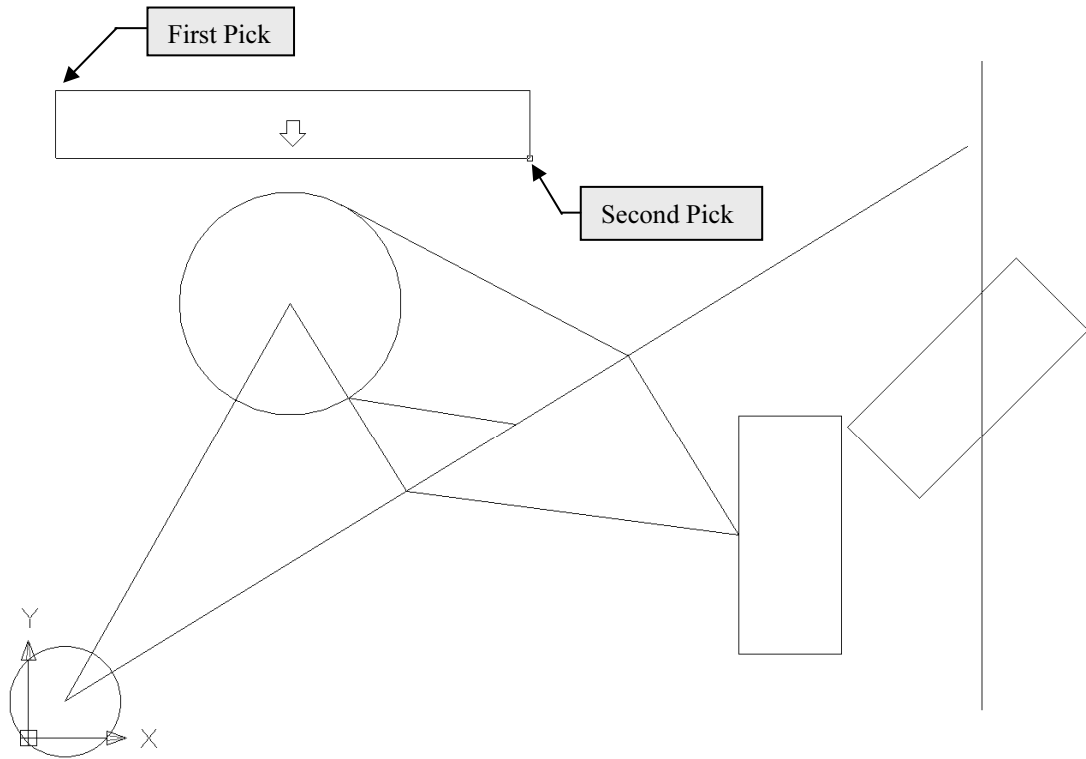

Figure 2-4.2 Mtext; defining the window that contains the text (first point picked; picking second)
3. **Zoom** out, if required, your screen should look like Figure 2-4.2.
- Pick your first point and then your second point to define a box as shown in **Figure 2-4.2**.